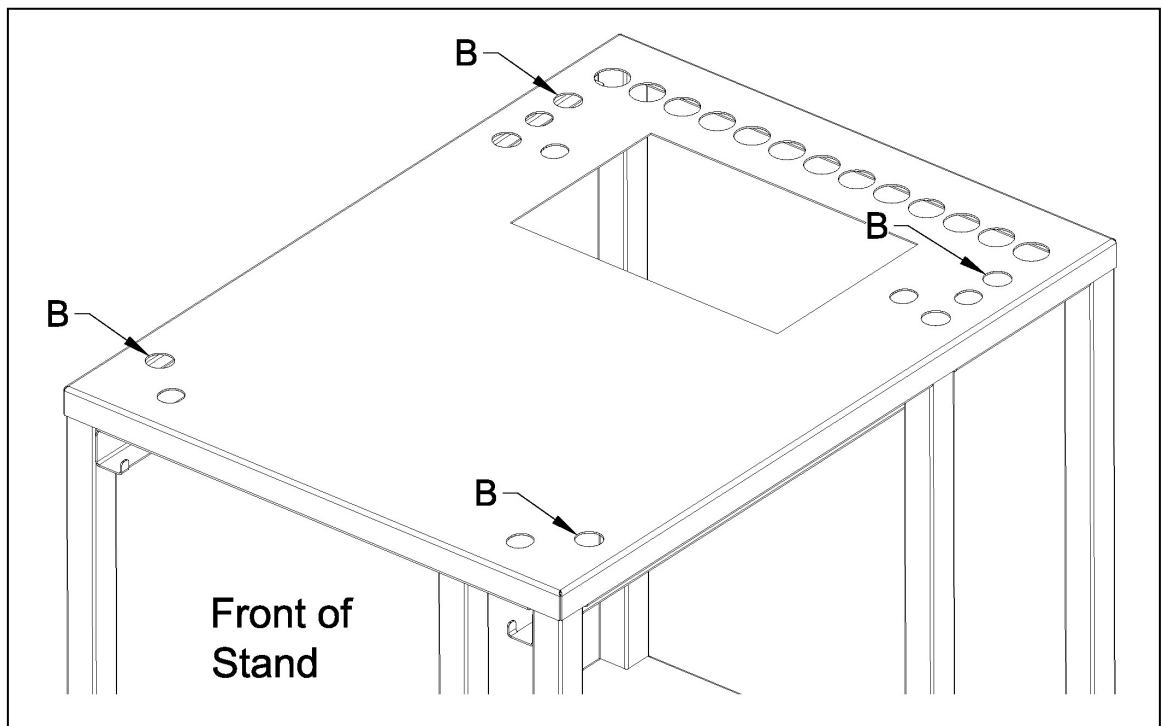

Figure 7
5. Align steamer so that mounting bolts come up through holes marked "B" in Figure 7 below.